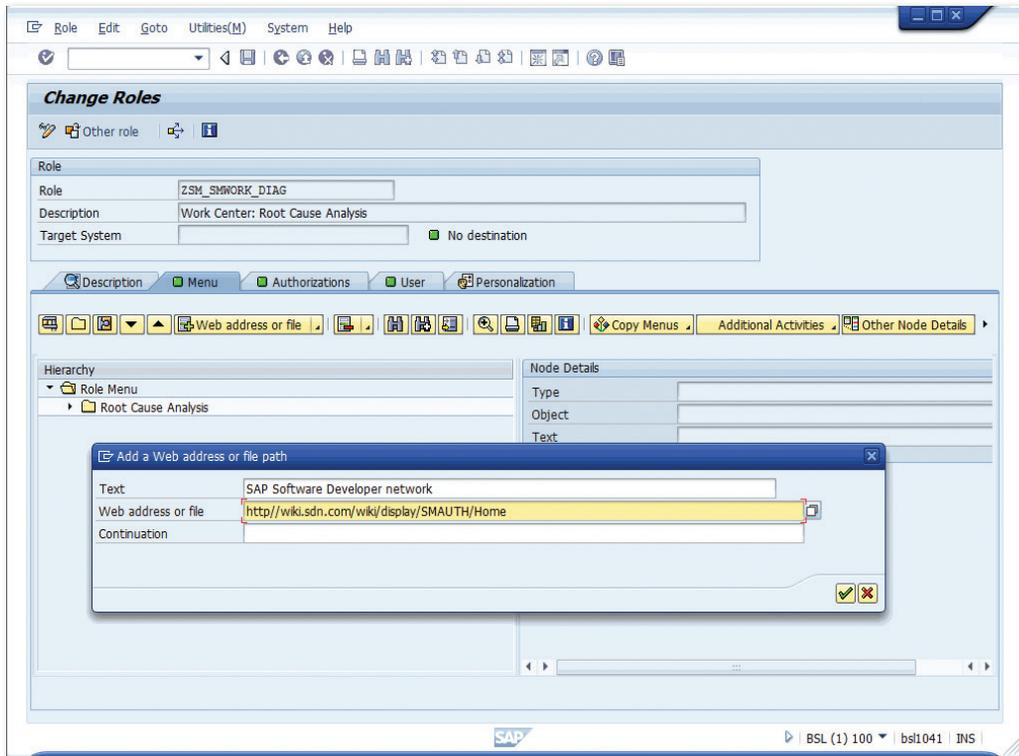

Figure 12.7 Role Maintenance with Transaction PCFG
4. Another window in which you can adapt already available web addresses or add new ones opens (see Figure 12.7).